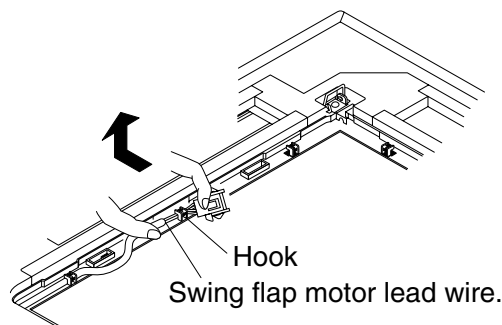

Fig. 1
(1) Remove the suction grille from the decoration panel.
- 1 Press the lever on the suction grille and lift the lever side. **(Refer to Fig. 1)**
(Refer to Fig. 1)